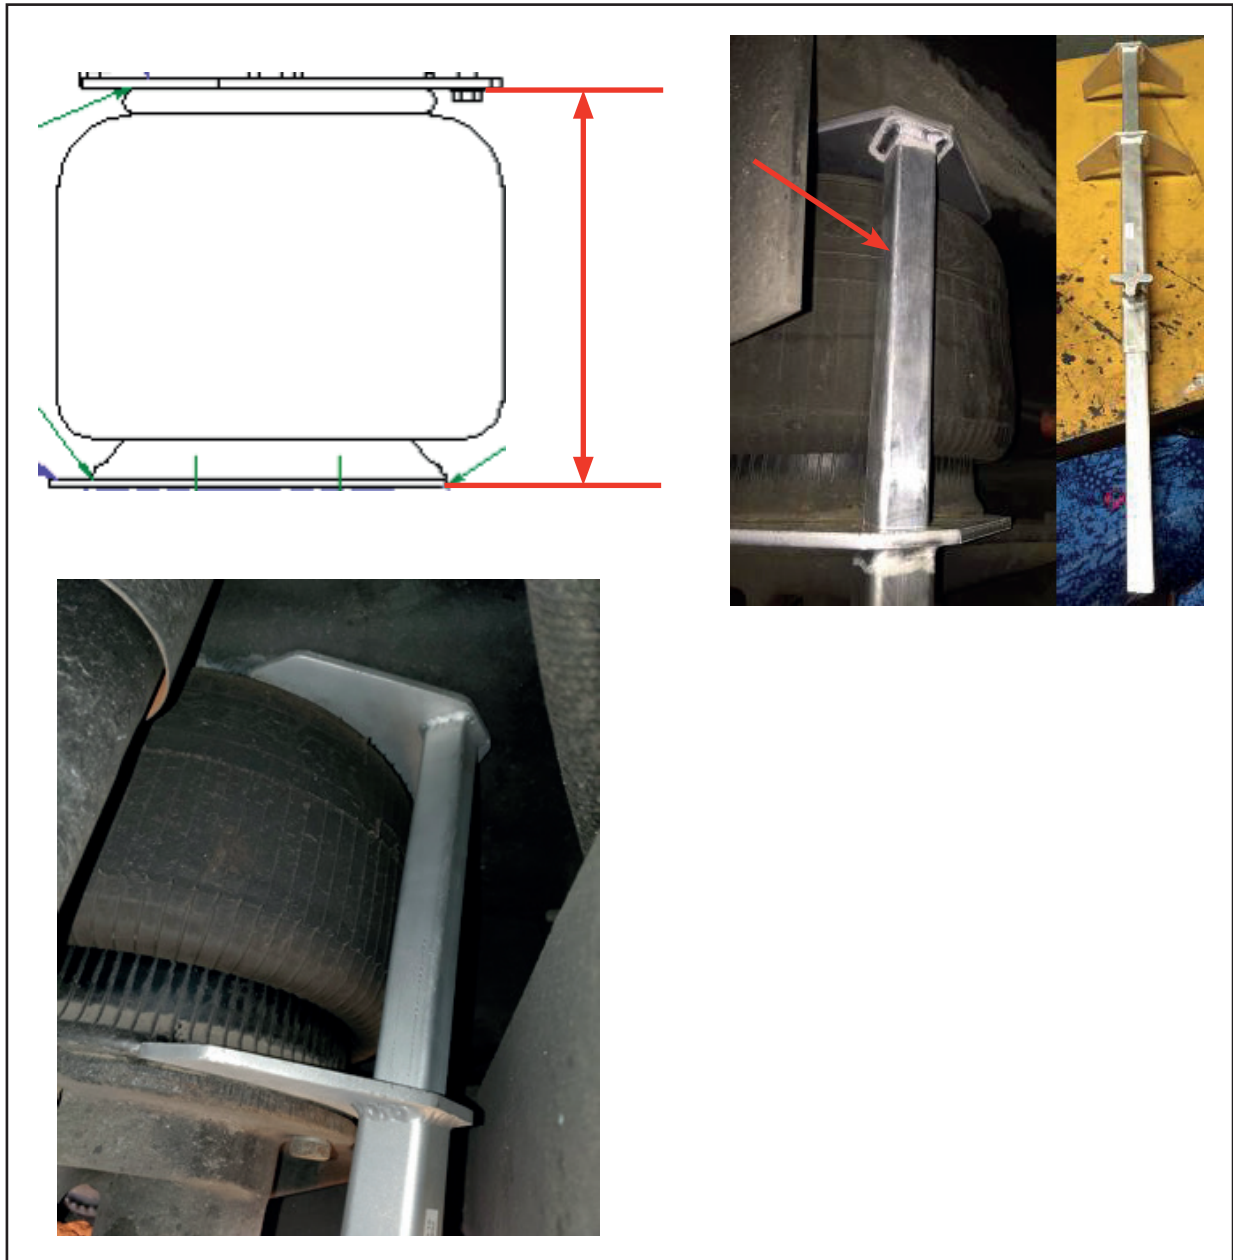

Figure 3 - Measurement of Air Springs - Rear
- 1.10. Using the jig NT1090, measure the distance from the air spring mounting plate and the bottom of the air bag structure to which the air bag is attached (See Figure 3).